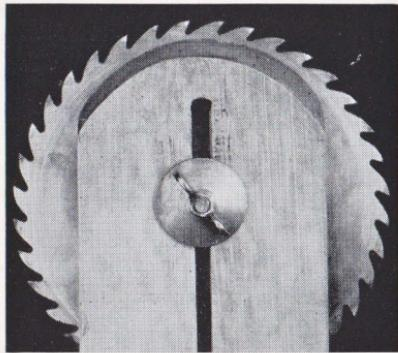

Fig. 18—Wooden vise for circular saw
3. FILING—The larger circular saws may be filed when mounted on their arbors in the machine, provided they do not chatter. If they do, they should be placed in a clamp, then filed (See Fig. 18). Small circular saws are usually filed in a similar circular clamp.